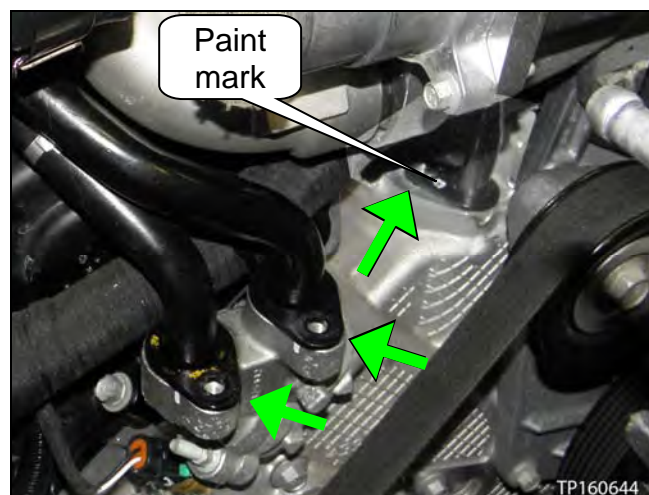

Figure 84
- For additional reference, also see page 38, Figure 84.
- The EGR bypass coolant tube and both water transfer connection tubes are properly positioned and inserted (see next page, Figure 84).
28. Install the bolts for the EGR bypass coolant tube and both water transfer connection tubes (see Figure 84).